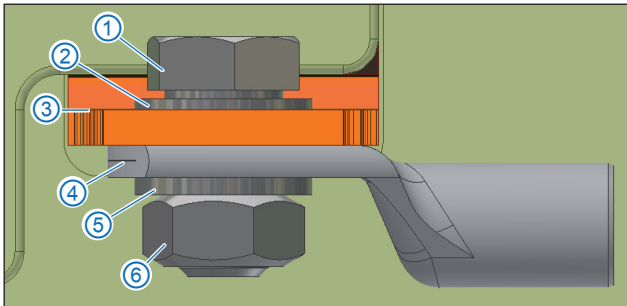

Fig. 5-11: Mounted ring terminal of the HV-/HV+ shielding
Fig. 5-11 shows a mounted ring terminal for the shielding HV- or HV+. A toothed washer and a standard washer are used to mount the ring terminals:
- ☞ Remove the M5 nut ⑥ and the washer ⑤ from the M5 screw ①.
- ☞ Place the ring terminal ④ of the HV-/HV+ shielding onto the thread of the M5 screw ① as shown in Fig. 5-11. Make sure that the base of the ring terminal rests flat on the mounting surface of the copper rail ③.
- ☞ Place the washer ⑤ on the ring terminal ④.
- ☞ Hand-tighten the M5 nut ⑥.
- ☞ Place an open-end or ring wrench on both the M5 screw ① and the M5 nut ⑥ and tighten the M5 nut to the specified torque of 5 Nm (Tab. 5-2).